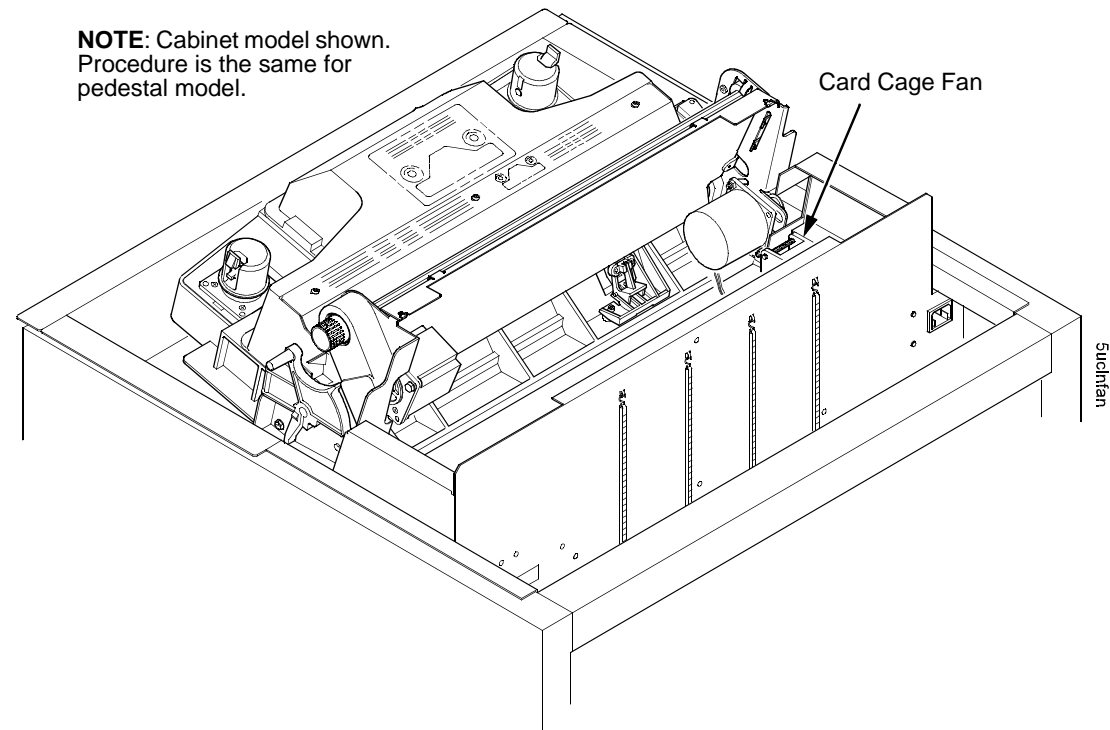

Figure 68. This figure points out the card cage fan assembly for cleaning.
2. Vacuum the card cage fan assembly and surrounding areas to remove paper particles, dust, and lint. (See Figure 68.)